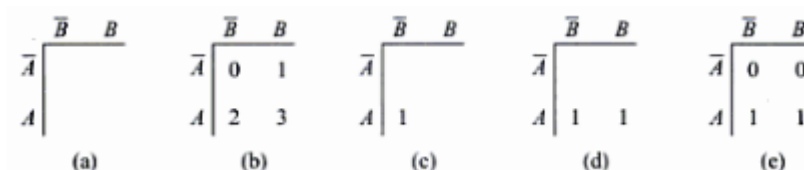

Figure 3.7: Constructing a kmap
- Kmap is a drawing that shows all the fundamental products (minterms) and the corresponding output values of a truth table (Table 3.5 & Figure 3.7).